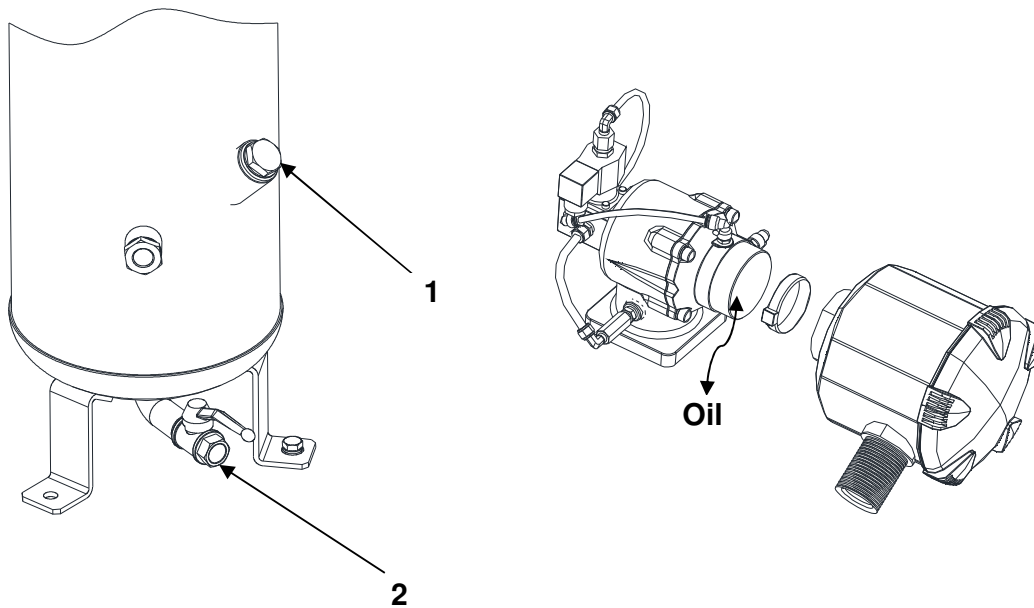

FIG. 17
After draining the old oil out of the machine Ref. 2 FIG. 17.
- Fill the oil tank to the MAX level, Ref. 1 FIG. 17.